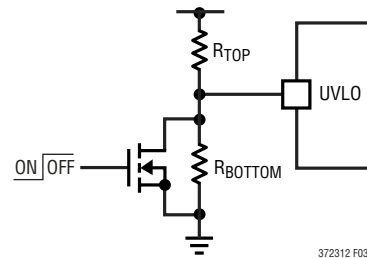

Figure 3. System UVLO Setup
UVLO. The amount of DC feed hysteresis provided by this current is: 10µA • RTOP, (Figure 3). The system UVLO threshold is: 5V • {(RTOP + RBOTTOM)/RBOTTOM}. If the voltage applied to UVLO is present and greater than 5V prior to the VCC UVLO circuitry activation, then the internal UVLO logic will prevent output switching until the following three conditions are met: (1) VCC UVLO is enabled, (2) VREF is in regulation and (3) UVLO pin is greater than 5V.
UVLO can also be used to enable and disable the power converter. An open drain transistor connected to UVLO as shown in Figure 3 provides this capability.